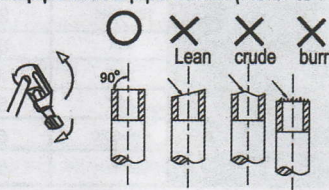

Fig.7-1
- Cut a pipe with a pipe cutter. (Refer to Fig.7-1)